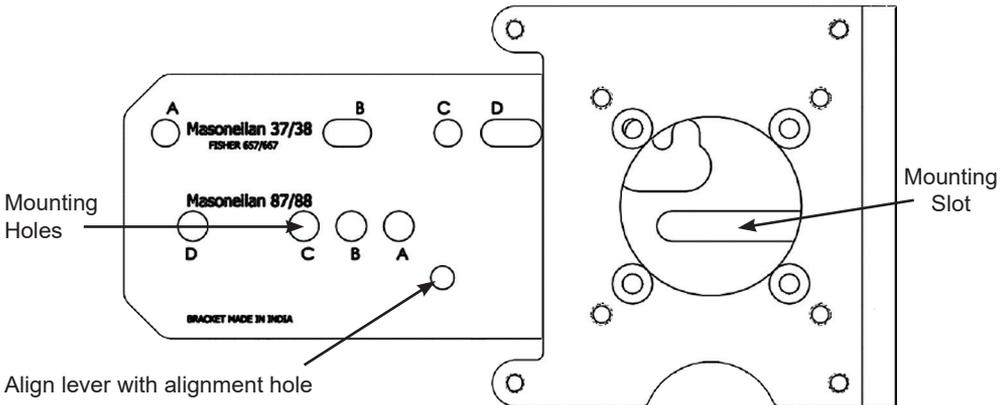

Figure 16 - Reciprocating Valve Mounting Bracket for Standard Lever
12. Ensure the adjustable link turnbuckle is parallel to the valve stem. Verify that the hole in the lever aligns with the indicating hole in the bracket when the valve is in the closed position. Check that the bracket is mounted using the proper holes (Figure 16 on page 26).